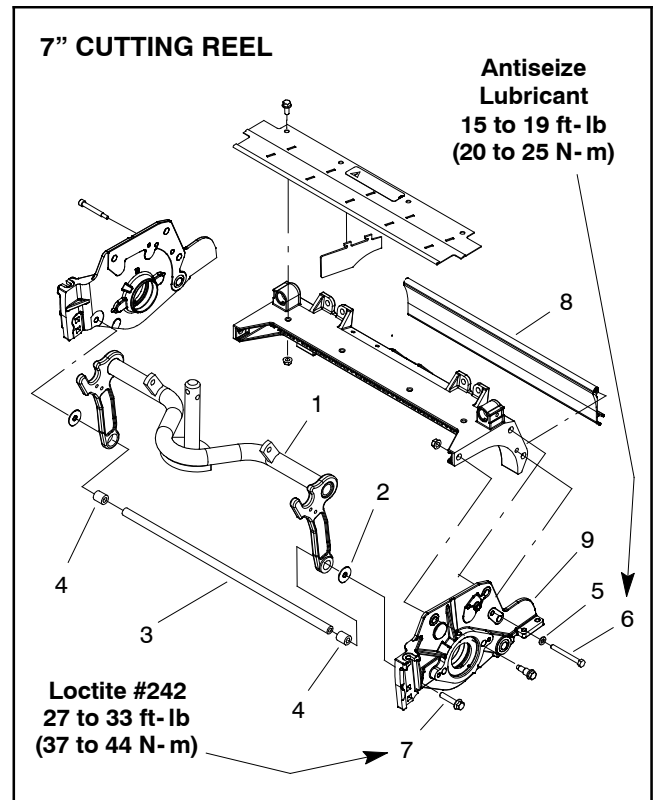
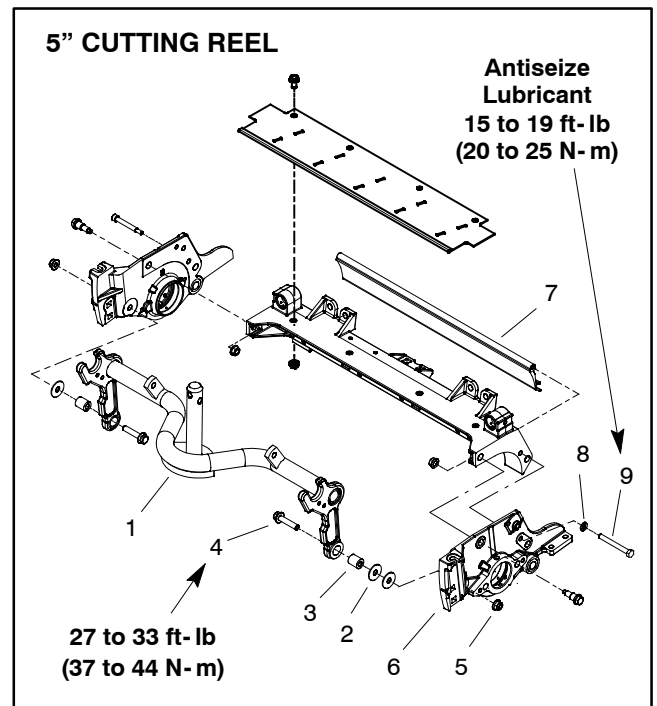

Figure 29
Figure 30
8. Remove cap screw and flat washer that secure rear grass shield to LH side plate (Fig. 29 for 7" cutting units or Fig. 30 for 5" cutting unit).
9. Remove fasteners that secure frame spacer, washer(s) and carrier frame to LH side plate (Fig. 29 for 7" cutting units or Fig. 30 for 5" cutting unit). Note the number of washers that exist between LH side plate and carrier frame for assembly purposes.
6. Install shoulder bolts (item 8) and flange nuts (item 24) that secure the LH side plate to the cutting unit frame. Torque the shoulder bolts from **27 to 33 ft-lbs (37 to 44 N-m)**.
A. For 7" cutting unit (Fig. 29), apply Loctite #242 (or equivalent) to threads of flange head screw that secures support tube, frame spacer, removed washer(s) and carrier frame to LH side plate. Install screw and torque screw from **27 to 33 ft-lbs (37 to 44 N-m)**.
B. For 5" cutting unit (Fig. 30), secure carrier frame, frame spacer and removed washer(s) to LH side plate with flange head screw and flange nut. Torque screw from **27 to 33 ft-lbs (37 to 44 N-m)**.
8. Apply antiseize lubricant to threads of cap screw that secures rear grass shield to LH side plate (Fig. 29 for 7" cutting units or Fig. 30 for 5" cutting unit). Install cap screw and flat washer to secure rear grass shield to LH side plate. Torque screw from **15 to 19 ft-lbs (20 to 25 N-m)**.